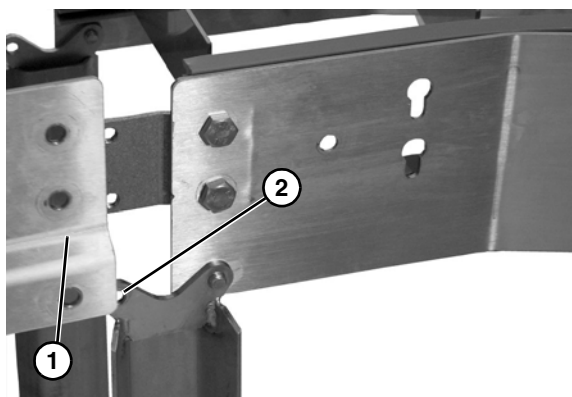

Figure 8
4. Connect the straight section (**Figure 8, item 1**) making sure that the stand mounting hole (**Figure 8, item 2**) is to the inside of the straight section on both sides.